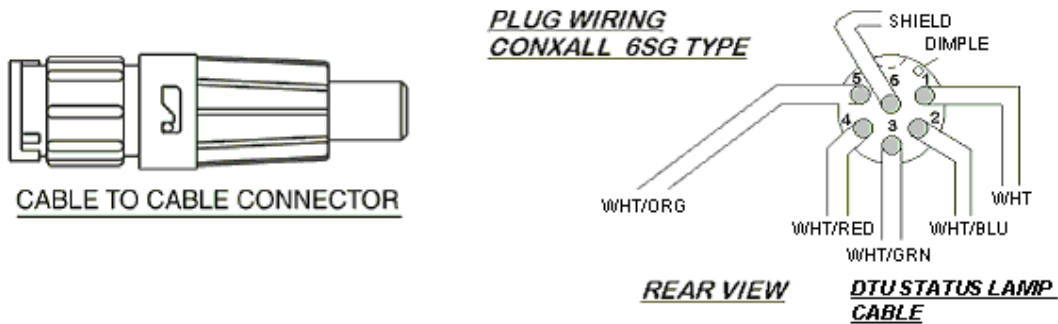

Figure B- 12: DTU Status Lamp Connector Wiring (with ADAS^d)
- ❑ 020 Refer to the illustration Figure B- 12 and connect the cable to the included ConXall™ connector using the socket configuration shown. Splice a short wire lead to the cable shield with a shrink-on solder sleeve to make the Pin 6 shield connection.